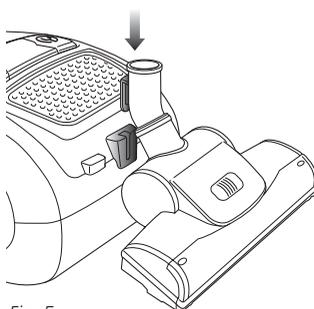

Fig. 5
- 6 To store the canister vacuum, insert the clip that is on the back of the air driven floor brush into the slot on the back of the vacuum. (Fig. 5)